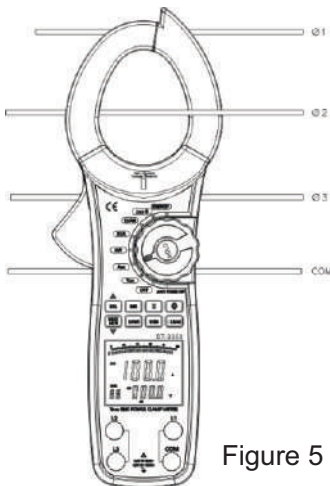

Figure 5
8.3. AC Current (main display) + AC Voltage (secondary display) Measurement (see figure 5)